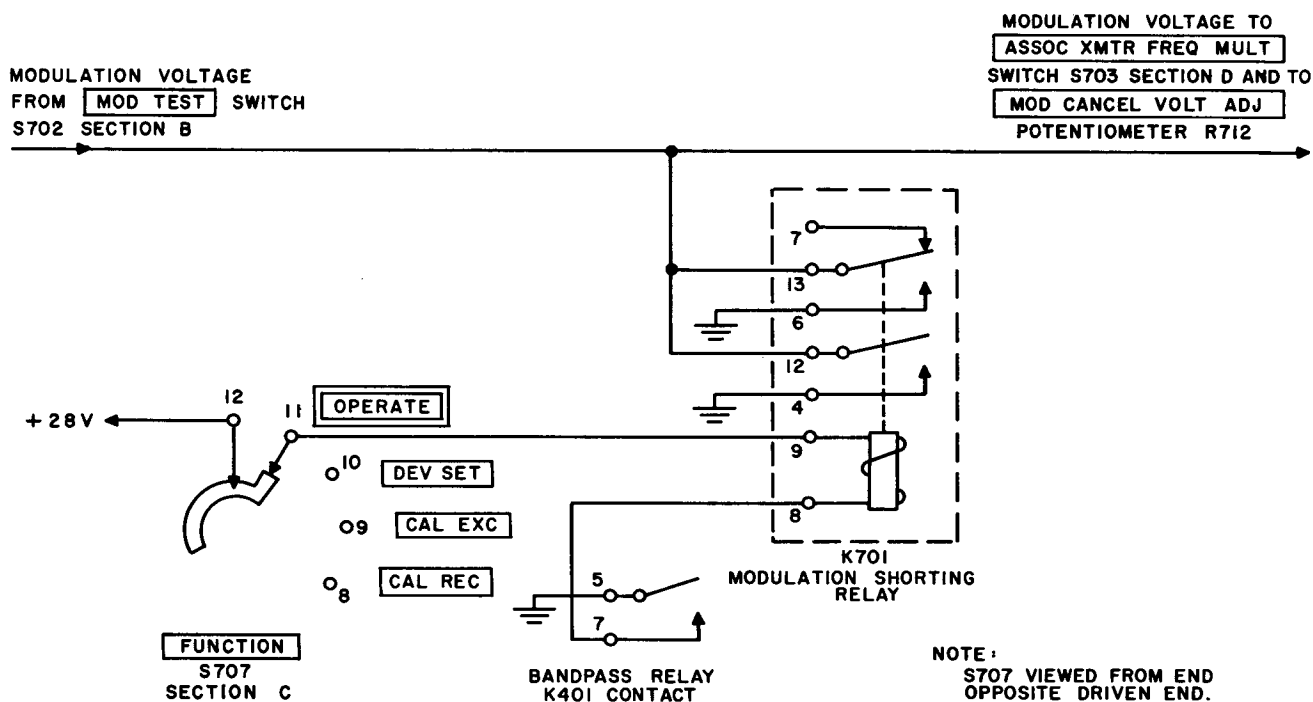

Figure 40. Modulation shorting relay, simplified schematic diagram.
73. Modulation Shorting Relay K701 (fig. 40)